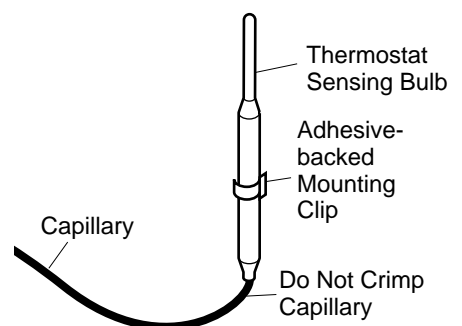

Figure 45 - Positioning the Thermostat Sensing Bulb in the Vertical Position with the Capillary at the Bottom
4. The mounting clip must be a minimum of 3" from bottom of fireplace to prevent crimping of capillary. Once you have decided on a location, clean the area thoroughly. Remove the paper backing from the adhesive on back of mounting clip. Press the clip into the new location so that the thermostat sensing bulb will be positioned vertically with the capillary at the bottom (see Figure 45). Slide the thermostat sensing bulb into the clip.